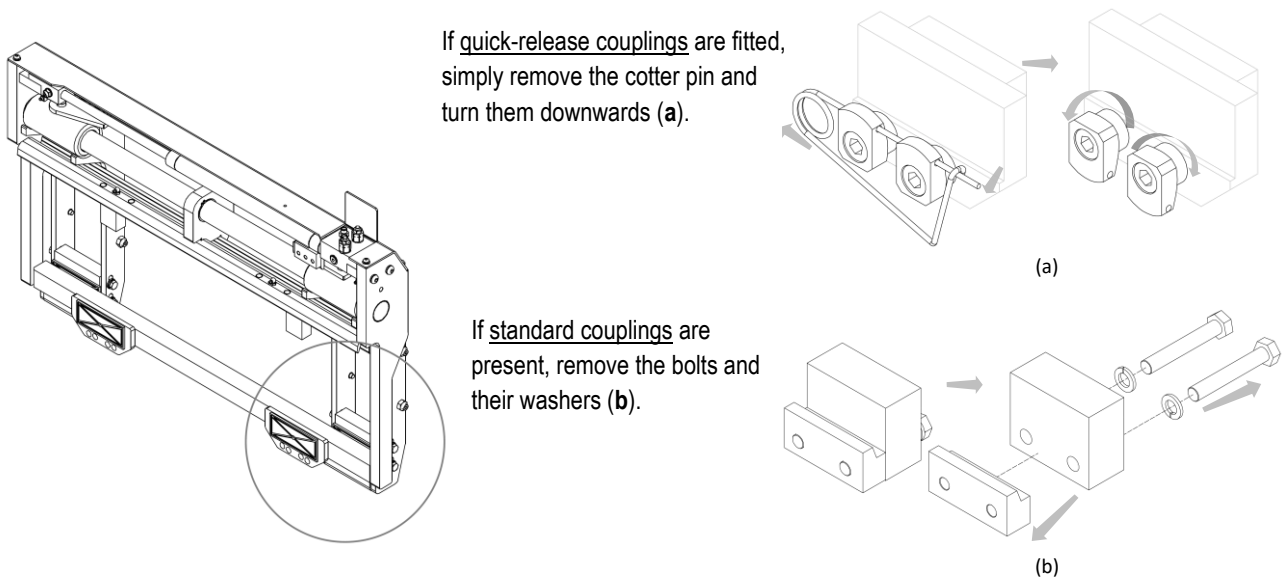

Figure 3
- Remove the lower couplings from the equipment and grease the gibs (see *Figure 3*).